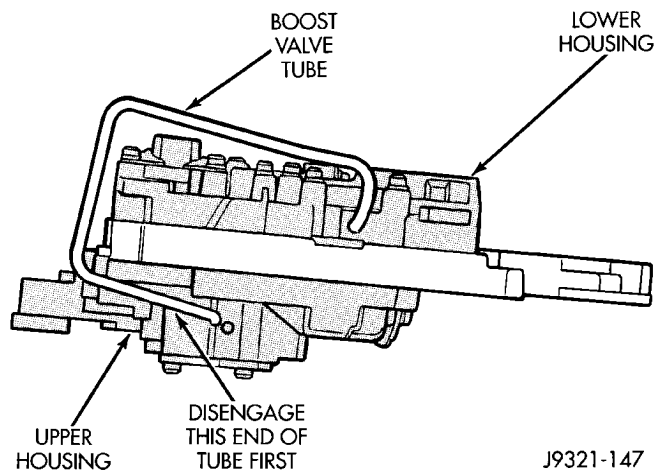

Fig. 64 Boost Valve Tube
(28) Remove boost valve connecting tube (Fig. 64). Disengage tube from upper housing port first. Then rock opposite end of tube back and forth to work it out of lower housing.